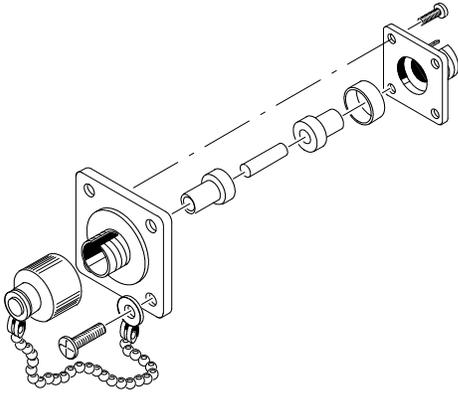

Figure H 2:FC Optical Bulkhead Assembly
4. Disassemble the bulkhead as shown in Figures H 2 through H 5.